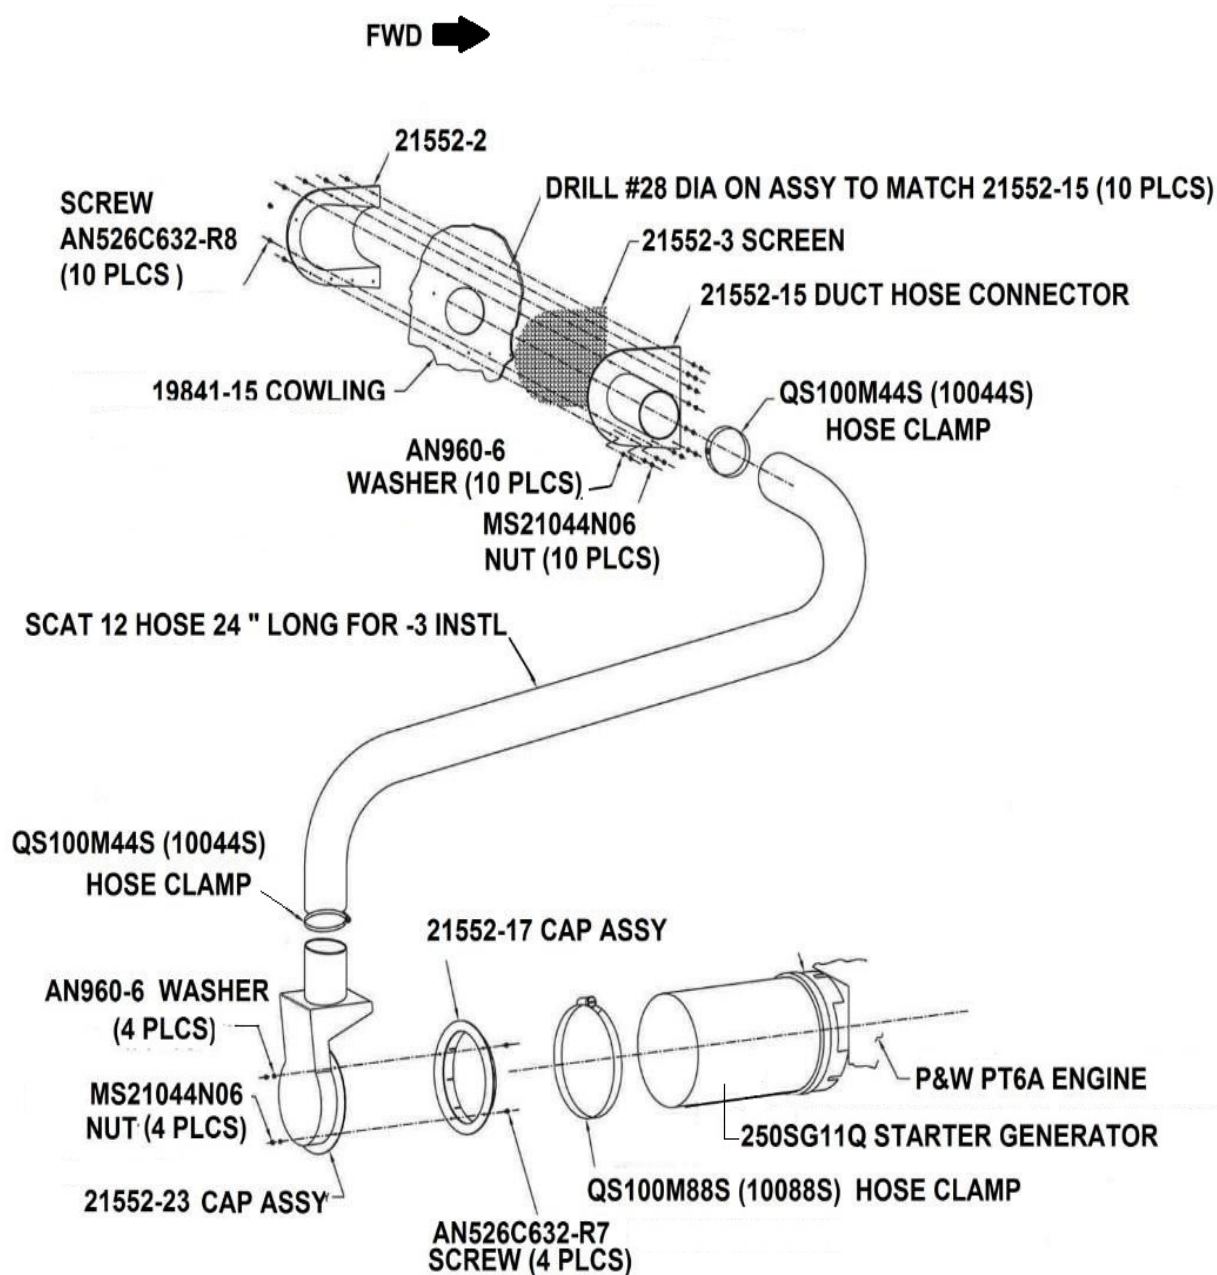

Figure 45-20
3. Assemble the 21552-2 Scoop to the Cowling Skin Assy and connect it to the Starter Generator with the hardware shown in Figure 45-20.